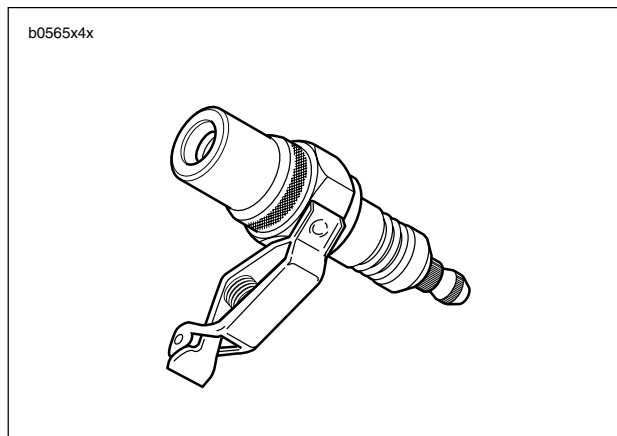

Figure 4-38. Spark Tester (Part No. HD-26792)
- See Figure 4-38. A SPARK TESTER (Part No. HD-26792) must be used to verify adequate secondary voltage (25,000 volts) at the spark plug.